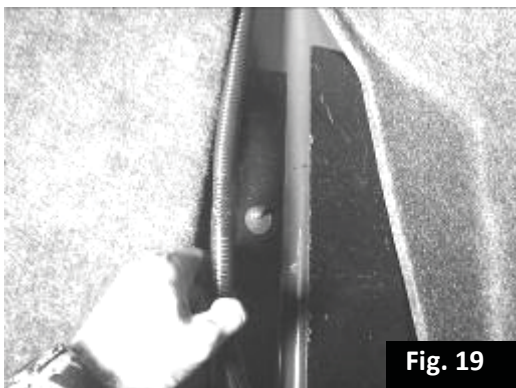

Fig. 19
35. Pull the factory wire harness loose from the metal stud where the subwoofer will mount. Fig. 19